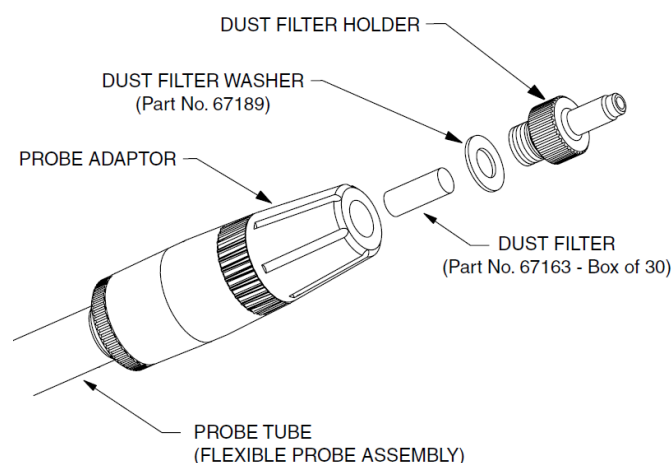

Figure 43: Dust Filter Holder / Filter Removal
1. Unscrew the dust filter holder and detach it from the probe adaptor, as illustrated in Figure 43: Dust Filter Holder / Filter Removal.